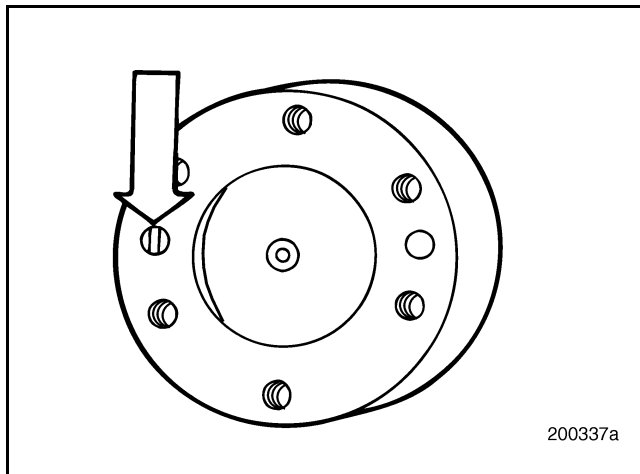

Figure 154 — Dowel Pin Alignment
1. Position the dowel pin in a 0.5562-inch (14.1275-mm) diameter unthreaded hole in the rear flange of the crankshaft. The pin must be installed with the flat surface aligned parallel to the center of the crankshaft as shown in Figure 154.